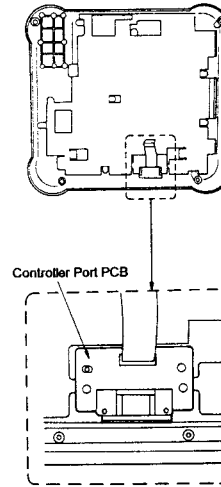

Figure 11
- (1) After removing the top case, the CD-ROM drive, the power transformer, and the main PCB, gradually raise the Controller Port PCB as shown in Figure 11.